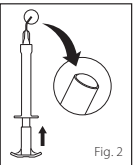

Fig.2
- Any possible air in the dispensing tip is removed by gently pushing forward the syringe plunger with the tip pointing upwards until material reaches the opening of the tip (Fig. 2).